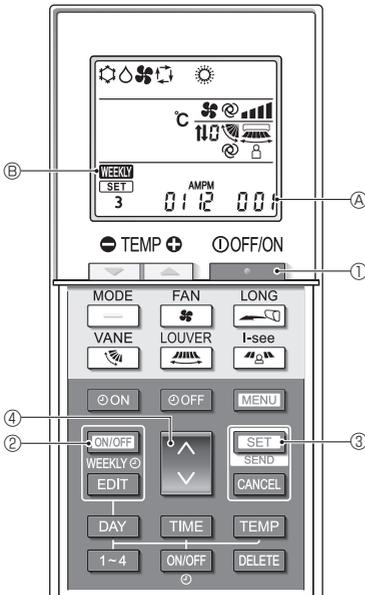

Fig. 6-1
6.1. Switching to the function setting mode (Fig. 6-1)
6.2. Entering the group model setting number (Fig. 6-1)